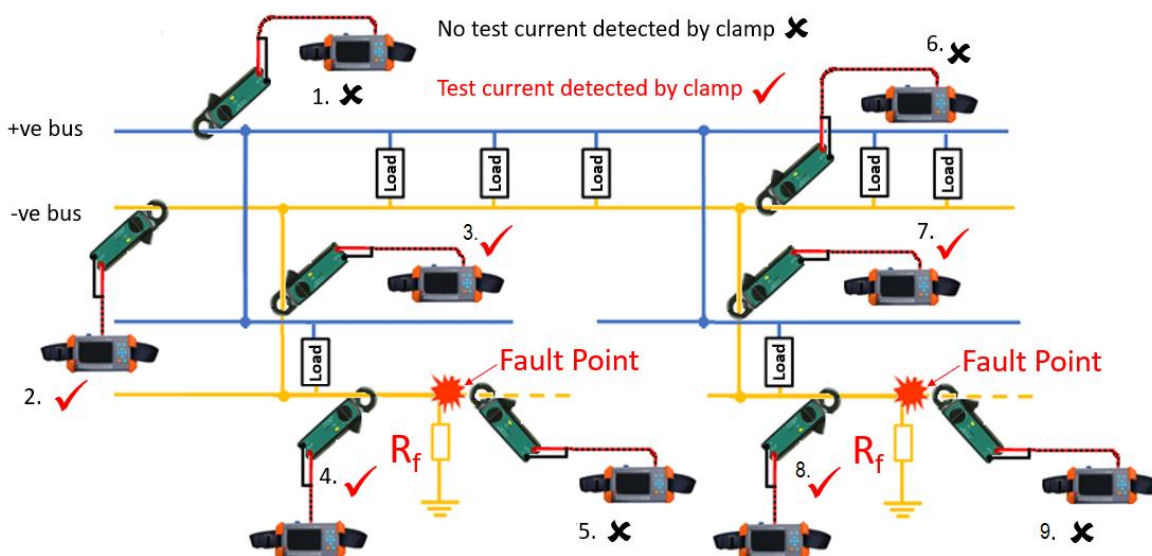

Figure 4.5 Multiple point, earth fault pinpointing process
- ii. If it is identified that there is more than one fault on the system, the process for pinpointing multiple earth faults is shown in figure 4.5